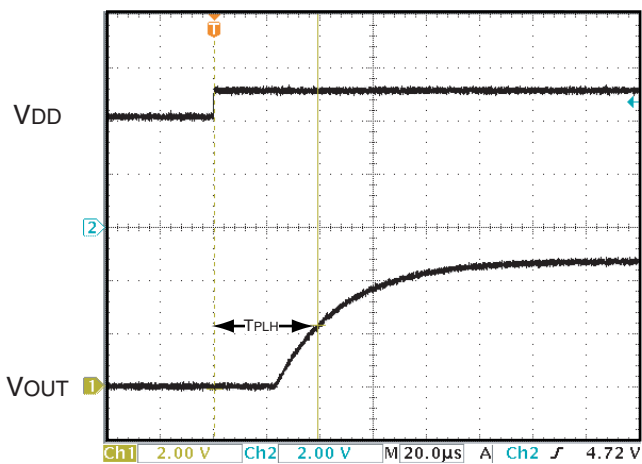

Fig.15
- ① If the VDD is equal to or lower than the operating limit voltage (VOPL) at power-up, the output is inconsistent.
- ② When the VDD is equal to or lower than the reset release voltage ($V_s + \Delta V_s$), VOUT=L.
- ③ When VDD exceeds the Reset Release Voltage, VOUT turns H with a delay of TPLH. See Fig. 15 and 17 for the reference waveform.
- ④ If the VDD goes below the detection (V_s) at power-down or instantaneous power failure, VOUT turns L with a delay of TPHL.